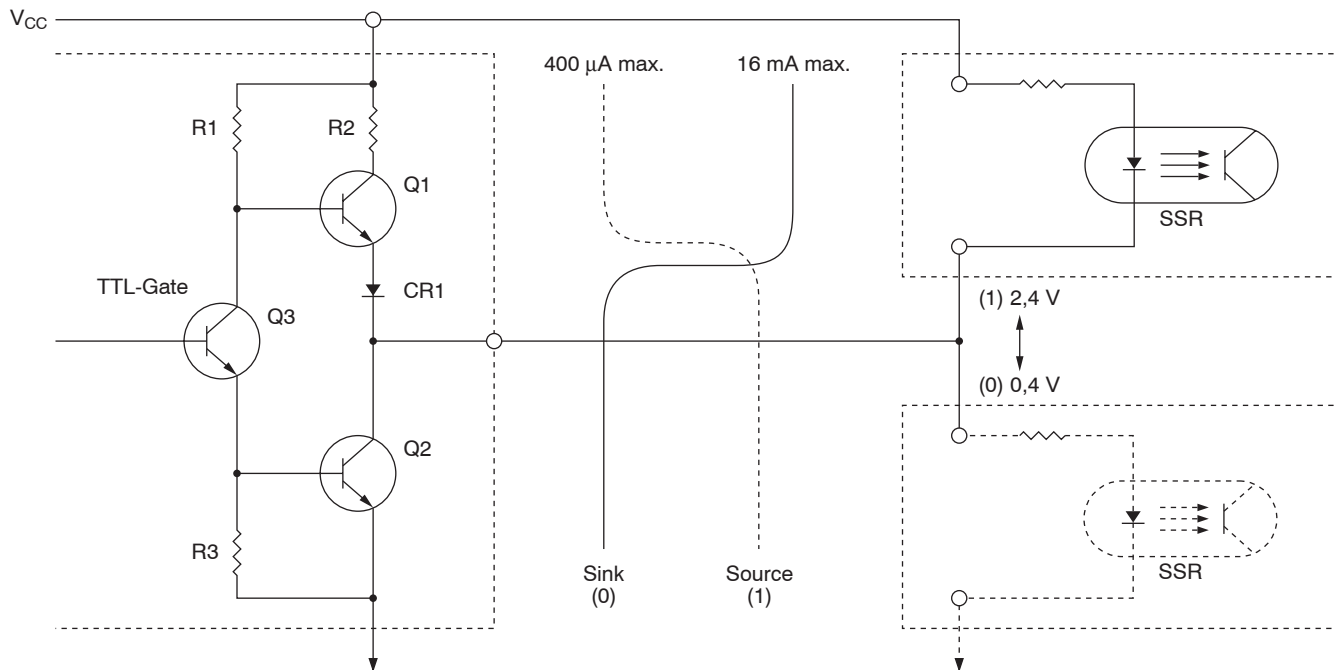

Fig. 6: Typical circuit of a TTL gate driving SSR
The activating signal may be derived from mechanical contacts or solid state devices such as those shown in figure 6 The minimum supply voltage through these contacts may be equal to the SSR turn-on voltage (3 volts dc typical), whereas the positively or negatively referenced transistors require a minimum supply voltage a few tenths of a volt above the specified turn-on threshold, say 3.5 volts
The relationship of the TTL gate to an SSR is illustrated schematically in Fig. 6. In this configuration the SSR supply voltage and the gate V_{CC} should be common and comply with the TTL specified limits of say 5 volts $\pm$ 10%. It can be seen that with a positively referenced SSR and the gate at logical (0), Q2 is operating much like a discrete NPN transistor in the grounded-emitter saturated state. In this mode the gate can sink up to 16 mA with
It should be noted that the 2.4 volt gate output in the logical 1 state relates only to a negatively referenced load. It does not represent a voltage source to a positively referenced load (SSR), where it would appear to be greater than the off state voltage. Referring again to Fig. 6, Q2 would be off and CR1 is reverse biased, thus presenting essentially an open circuit with virtually zero potential across the SSR.
The off state leakage current in the driving semiconductor shown in Figs. 6 to 8 is significant, just a few microamperes, which could not possibly turn on the SSRs. However, the off state (output leakage current of any packaged solid state driving device (e.g. temperature controller, etc.) should first be checked for compatibility with the SSR.